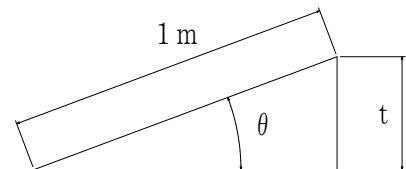

Figure 2. Method of Determining
- ③ The relationship between the inclination angle and height is shown in Figure 2 and the following formula.